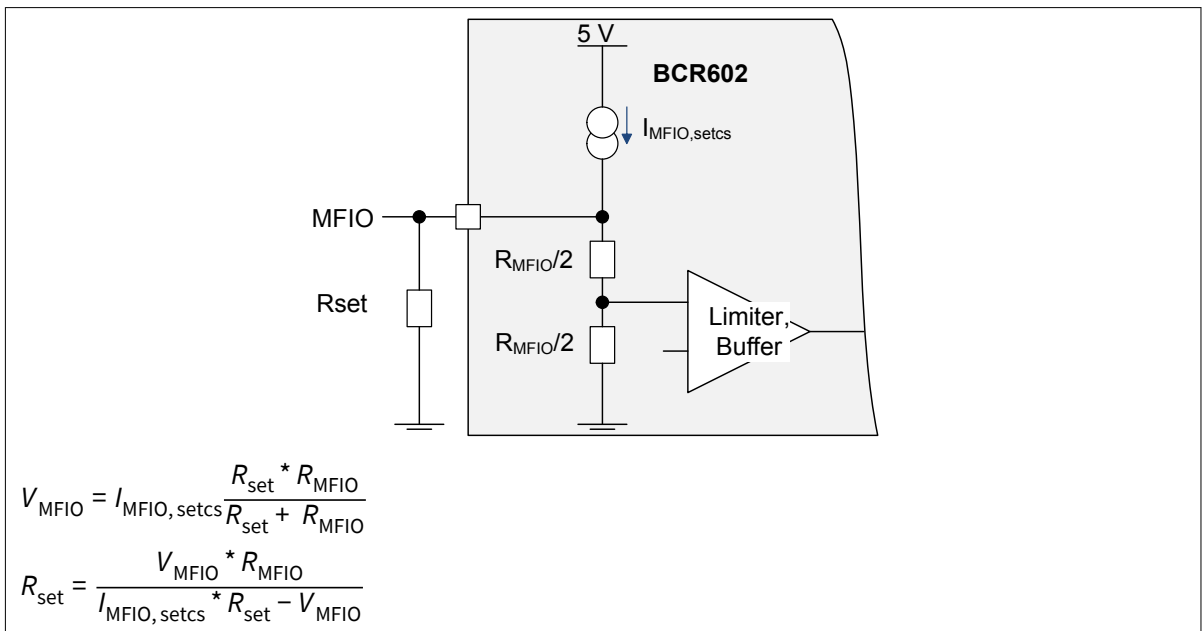

Figure 5 R_{set} dimensioning for resistor dimming
3. For resistive dimming using R_{set} and internal MFIO current, the internal pull-down has to be taken into account. For proper dimensioning refer to Figure 5.
| MFIO output source current | $I_{\text{MFIO, setcs}}$ | 18 | 20 | 22 | μA | For $R_{\text{SET}} < 10\text{ k}\Omega$, in parallel internal pull-down R_{MFIO} connected, refer to Figure 5 |